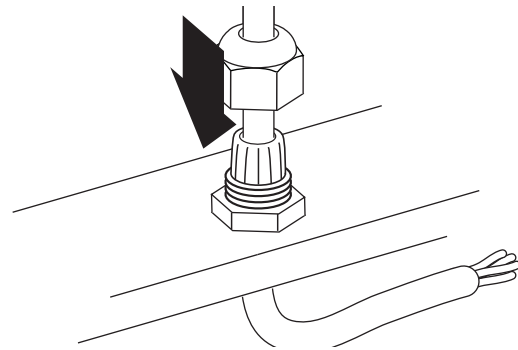

Fig. 11 Insert lamp cord through fitting nut and fitting. Secure with fitting nut.
4. Remove outer finish nut from fitting and insert lamp cord through finish nut and fitting. Tighten finish nut to secure lamp cord. (See fig.11)